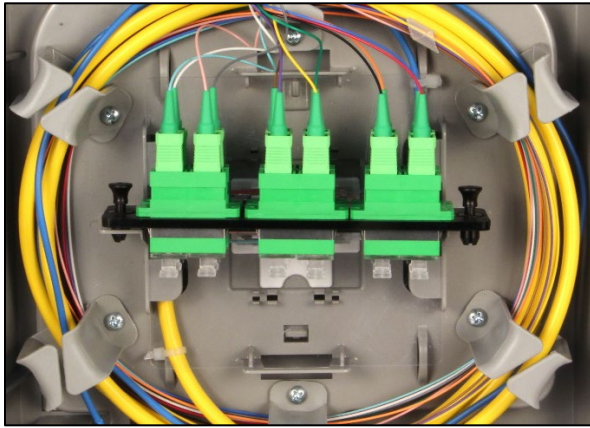

Figure 14
8. Install clear protecting film and adapter plate (Figure 14)